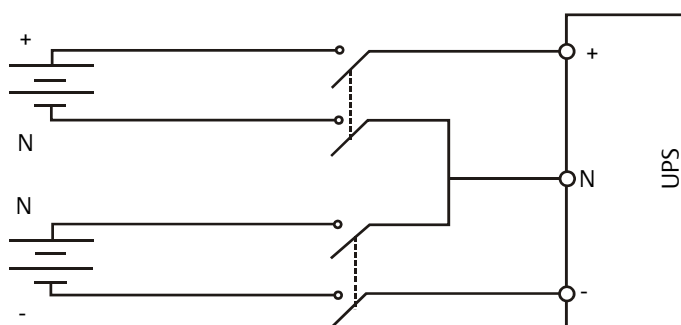

Figure 6-3 Connections between battery, BCB and UPS (4 wires at battery side)
1. If the external battery is configured to have separate wiring of positive terminal and negative terminal (that is, four wires will be led out from the battery side), for the UPS, due to the limitation of the rated current, it is recommended to use a 4P DC MCCB (DC rated voltage of the breaker meeting 1-pole 250Vdc, 2-pole 500Vdc, 3-pole 750Vdc, rated breaking capacity limit being 35kA) or two 2P DC MCCBs (DC rated voltage of single breaker meeting 1-pole 250Vdc, 2-pole 500Vdc, rated breaking capacity limit being 35kA). Connections between the battery, BCB and UPS are shown in Figure 6-3.